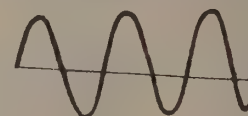

Figure 17
- () Set the HOR. SELECTOR switch to the line between 20 and 180. Reduce VERT. GAIN for a pattern height of about 1". Adjust the HOR. GAIN control for a pattern width of about 2". Now slowly adjust the FREQ. VERNIER control to obtain a pattern consisting of three complete sine waves as in Figure 17. Stabilize the pattern by rotating the SYNC. AMPLITUDE control clockwise. A definite flickering will be noticed because the horizontal sweep frequency of 60/3 or 20 cycles per second is slow enough for the eye to detect. There may also be a random movement of the complete pattern due to slight variations in line voltage.